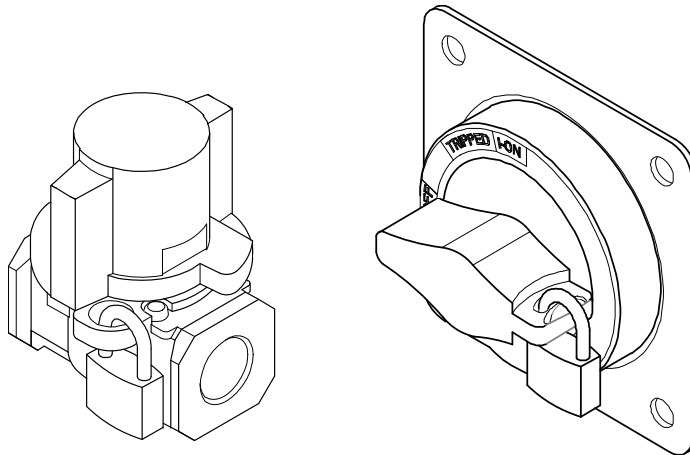

Figure 7-42 Manual ON-OFF valve/main power switch
Step 6: Turn off the main power switch and lock it, as shown in the right view of Figure 7-42;